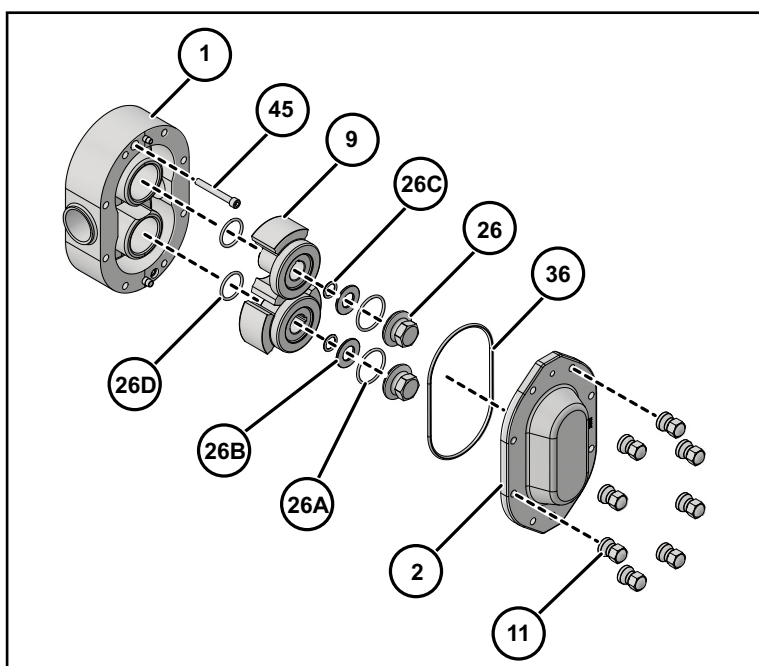

Figure 76 - Exploded View of Fluid Head
1. Clean the cover O-ring (See Figure 76 on page 58, item 36) and install it in the groove in the cover.
3. Install the cover (See Figure 76 on page 58, item 2) on the pump body.
5. Tighten the cover securely using the cover nuts (See Figure 76 on page 58, item 11) and Table 16.